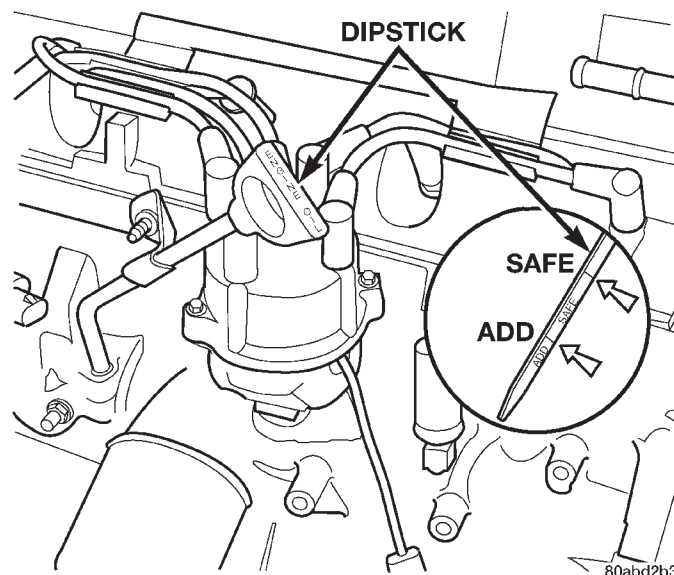
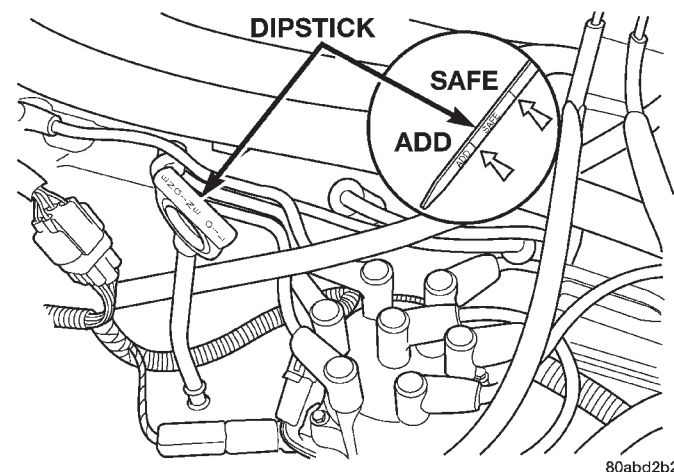

Fig. 6 Engine Oil Dipstick—2.5L Engine
Fig. 7 Engine Oil Dipstick—4.0L Engine
To ensure proper lubrication of an engine, the engine oil must be maintained at an acceptable level. The acceptable levels are indicated between the ADD and SAFE marks on the engine oil dipstick (Fig. 6) (Fig. 7).
- (1) Position vehicle on level surface.
- (2) With engine OFF, allow approximately ten minutes for oil to settle to bottom of crankcase, remove engine oil dipstick.
- (3) Wipe dipstick clean.
- (4) Install dipstick and verify it is seated in the tube.
- (5) Remove dipstick, with handle held above the tip, note oil level reading (Fig. 6) (Fig. 7).
- (6) Add oil only if level is below the ADD mark on dipstick.